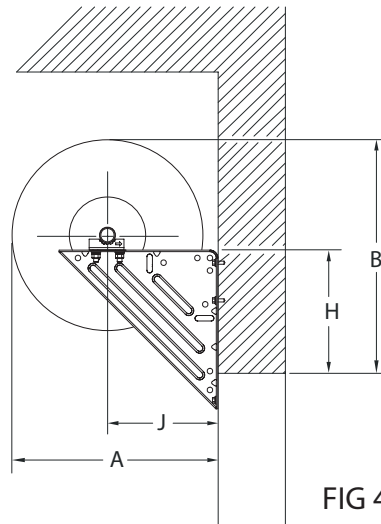

FIG 4
- Are the guides you received suitable for the jambs? Compare the guides type shown on the "Door Installation Data" sheet with FIG 4.
- Check Dimensions as illustrated in FIG 4 on page 6. Dimensions must match your "DOOR INSTALLATION DATA" sheet.